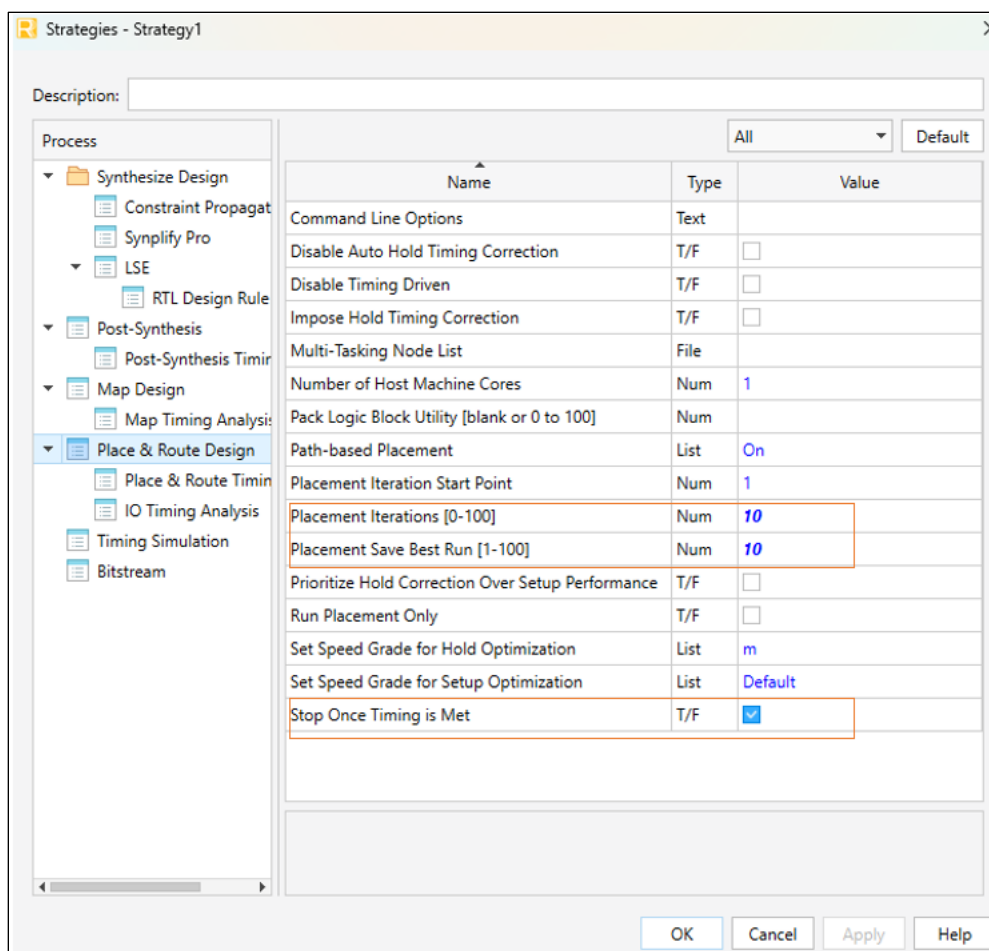

Figure 9.3. Place & Route Design Strategy Settings
- In the settings window as shown in Figure 9.3, change both **Placement Iteration** and **Placement Save Best Run** from **1** to **10**. Select **Stop Once Timing is Met**.